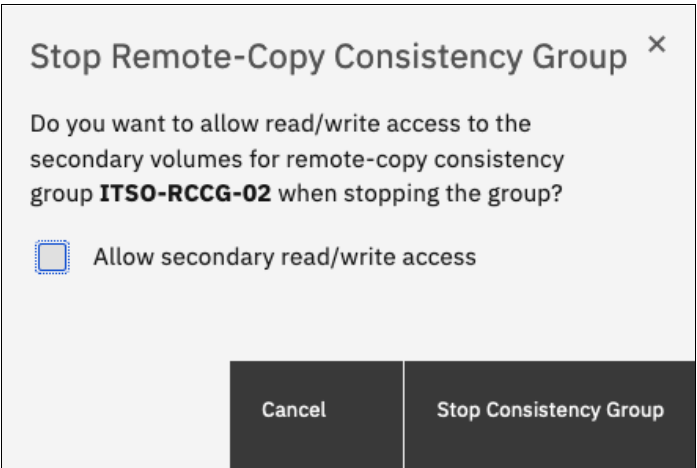

Figure 10-144 Grant access in read and write to the auxiliary volumes
3. When a RC consistency group is stopped, access to the auxiliary volumes can be changed so it can be read and written by a host. A confirmation message is displayed, as shown in Figure 10-144.